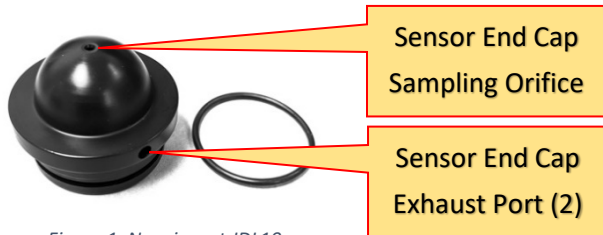

Figure 1. Nuvair part JDL10.
(1) Place mouth over the hole of the sampling orifice and suck gently. If the orifice is clear, air will enter from the two (2) exhaust ports located on the sides of the sensor end cap (see Figure 1). If the orifice was blocked, a pinhead-size piece of black plastic may enter your mouth. Be careful not to inhale the plastic piece.